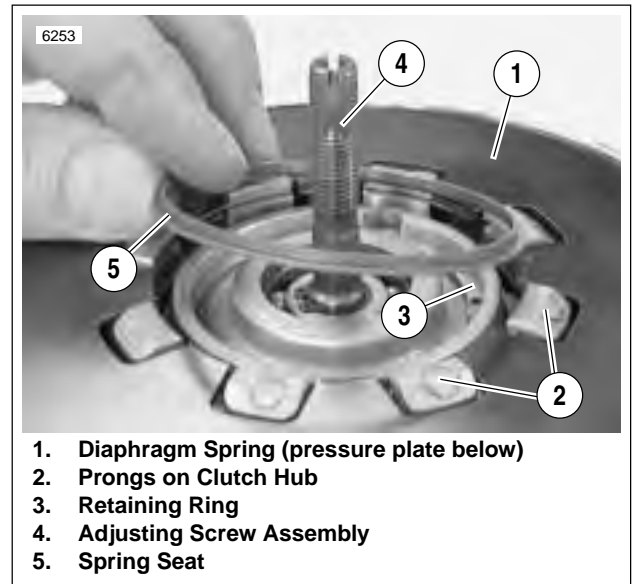

Figure 6-21. Spring Seat Installation
- See Figure 6-21. Align square openings of pressure plate and diaphragm spring (1) so that the assembly can be installed over prongs (2) of clutch hub.
- Position spring seat (5) with its larger O.D. side toward diaphragm spring (1).
- See Figure 6-21. Position diaphragm spring (1) with its concave side facing toward pressure plate onto pressure plate assembly.
- Insert adjusting screw assembly (4) into pressure plate. Secure with large retaining ring (3).
- Position spring seat (5) with its larger O.D. side toward diaphragm spring.